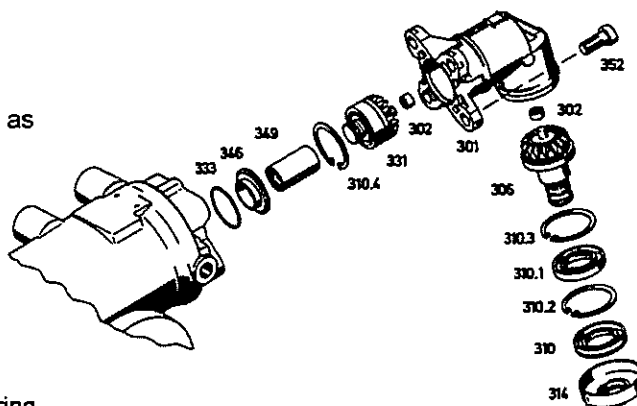

Fig.49
Press needle sleeves (302) in as far as possible with tool [36]. Install bevel gear (306) (*Fig.49*).
19.3.2 Angular gear versions with coupling sleeve (349)
Fit dust seal (314) on bevel gear (306) (*see Fig.49*).